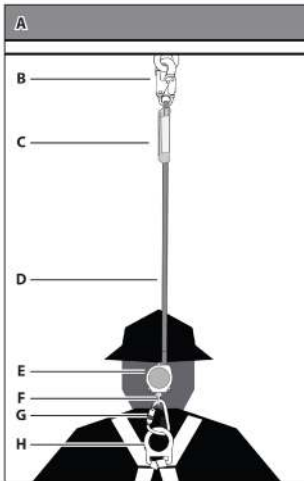

Figure 3 - Attaching Single-leg FT-X to FBH
Step 3: Connect the leg-end connector of the SRL to the anchorage or anchorage connector. See Figure 3.